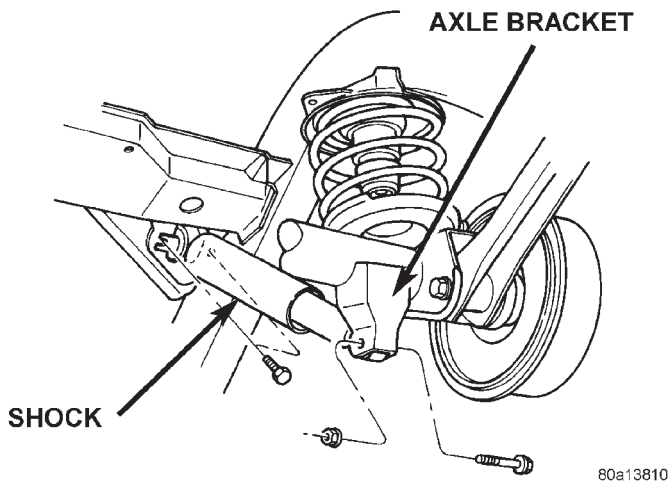

Fig. 1 Shock Absorber
- (1) Raise and support the vehicle and the axle.
- (2) Remove the upper mounting bolts (Fig. 1).
- (3) Remove the lower nut and bolt from the axle bracket. Remove the shock absorber.